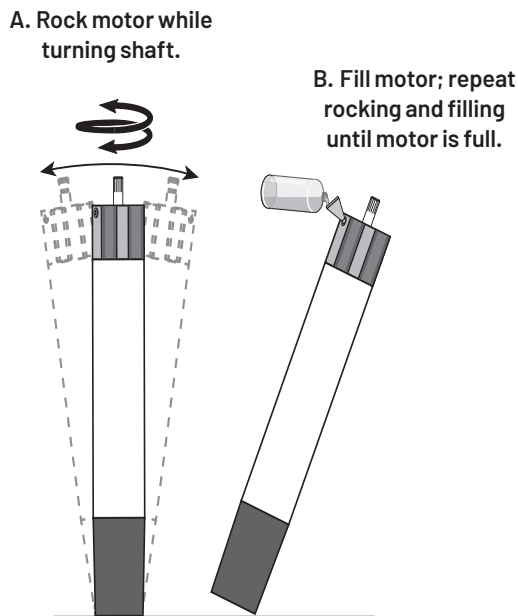

Figure 6-2: Rock Motor gently from side to side while turning shaft by hand (A), then fill with clean water (B). Repeat until full.
- B. Turn the motor shaft by hand while rocking the motor back and forth (see Figure 6-2). **CAUTION** Support motor while rocking to prevent motor from falling over.